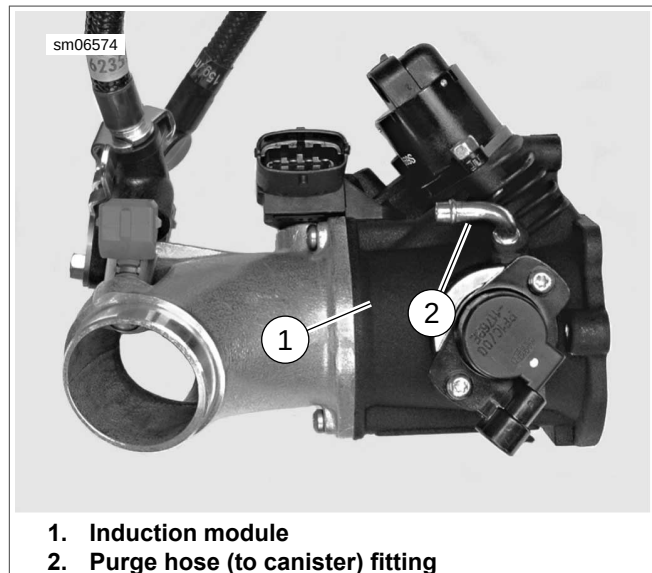

Figure 4-41. Purge Hose Fitting: CA Models
15. **EVAP Controlled Models:** See Figure 4-41. Install purge hose onto fitting (2) on induction module (1).